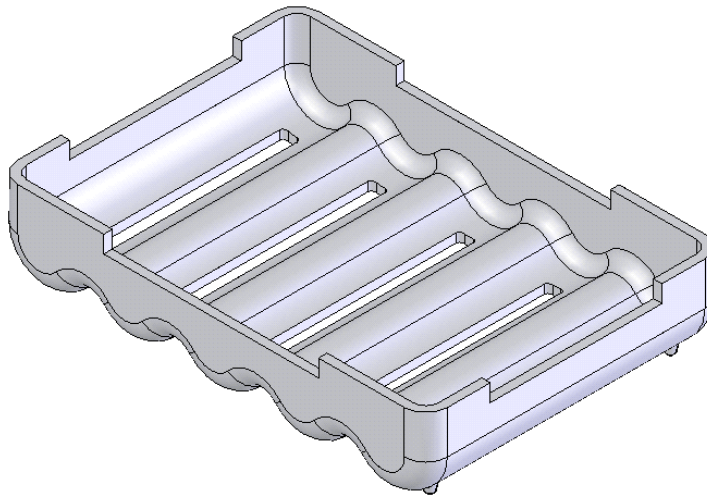
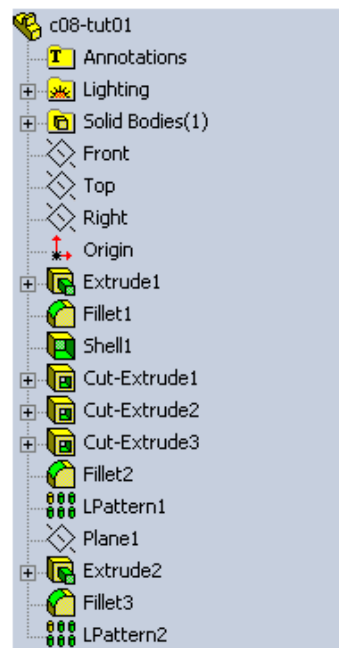

Figure 8-50 Final model
Figure 8-51 The FeatureManager Design Tree of the model
5. Pattern the extruded and filleted feature using the **Linear Pattern** tool. The isometric view of the final model is shown in Figure 8-50. The **FeatureManager Design Tree** of the model is shown in Figure 8-51.